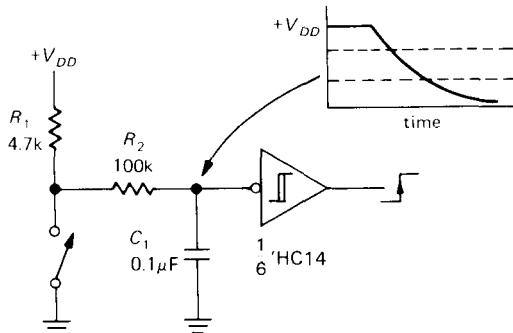

Figure 9.9. Switch debouncer: RC plus Schmitt trigger.
The TTL input threshold is typically around +1.3 volts, although the specifications only guarantee that it is between +0.8 and +2.0 volts. TTL gates with Schmitt-trigger inputs are available ('13, '14, '132), with ± 0.4 volt hysteresis; they are indicated by a hysteresis symbol within the gate outline (e.g., Fig. 9.9). V_{supply} (usually called V_{CC}) is +5.0 volts $\pm 5\%$.
3. Use an RC slowdown network to drive a CMOS Schmitt trigger (Fig. 9.9). The low-pass filter R_2C_1 smooths the bouncy waveform so that the Schmitt-trigger gate